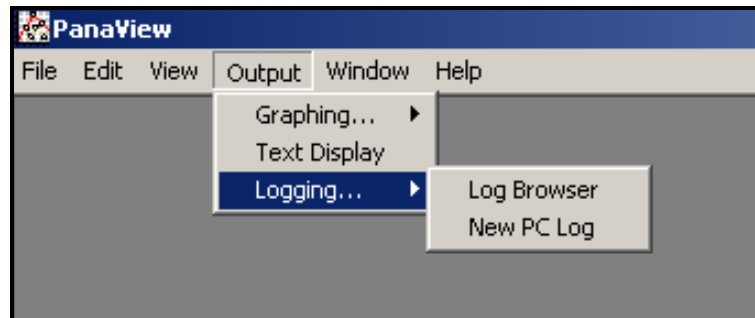
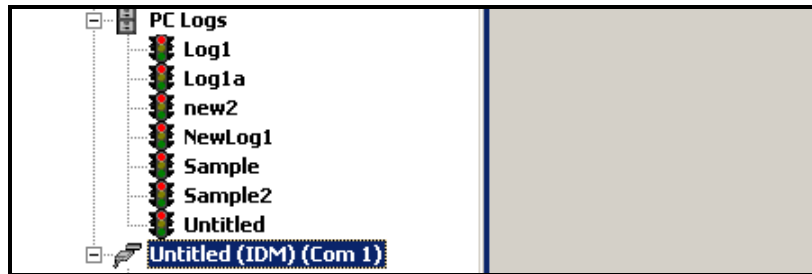
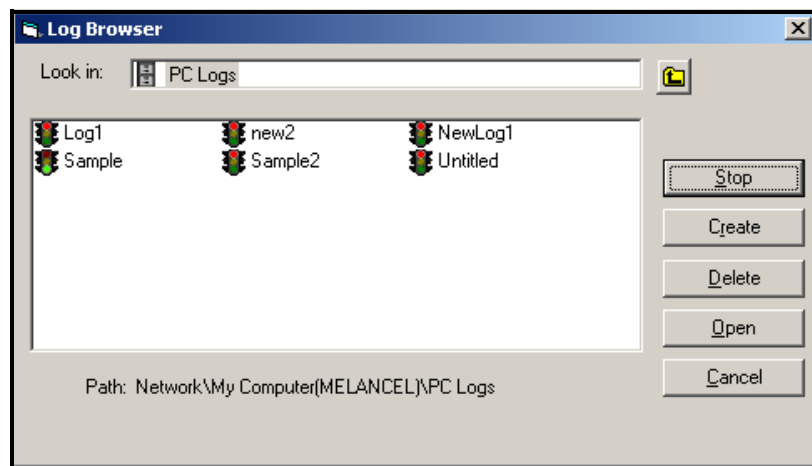

Figure 13: Selections in the Logging Option
Figure 22: The Expanded PC Logs Option
Figure 23: Selecting a Log File from the Log Browser
1. Open the *Output* menu (see Figure 13), and click on the *Logging* option.
- From the *New Meter Browser* in PanaView, expand the network tree and click on the *PC Logs* option. If you have created one or more logs, the tree will appear similar to Figure 22 below. Double-click on the log name to open the log, or
- Pull down the *Output* menu (see Figure 13 on page 57), and click on the *Log Browser* option. Advance to the *PC Logs* dialog box as described in previous sections. A screen similar to that shown in Figure 23 appears.
Notice that each of the log files in Figure 22 and Figure 23 has a traffic light icon next to its name. These icons indicate the current status of the log as follows: